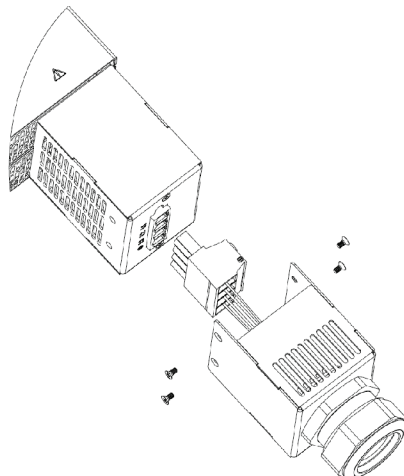
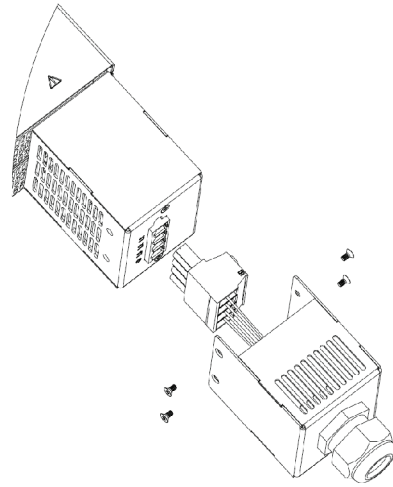

Figure 4-35: AC Wires Fixed to the 3-Phase 208 AC Connector
Figure 4-36: AC Wires Fixed to the 3-Phase 400/480 AC Connector
6. Insert the AC wires into the AC input connector. For 3-Phase 208, refer to Figure 4-35. For 3-Phase 400/480, refer to Figure 4-36 (10kW is shown, it applies to 15kW as well).